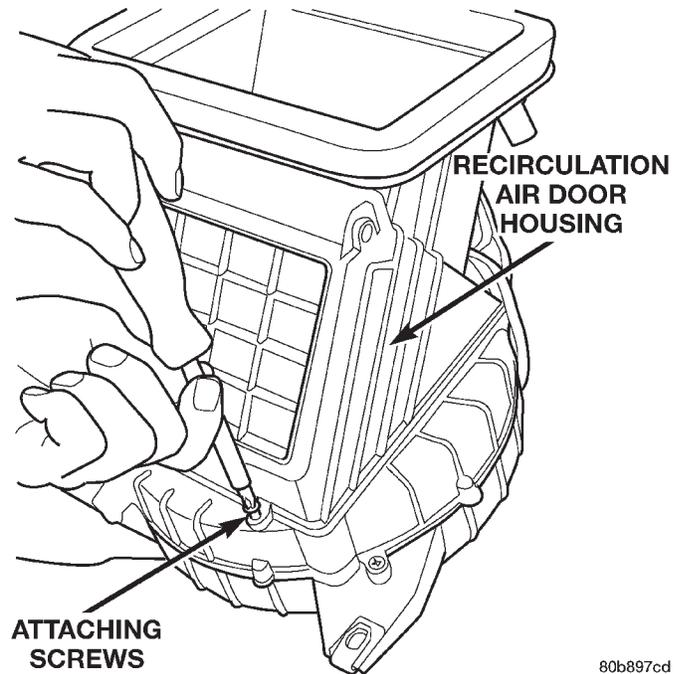

Fig. 65 Recirculation Air Door Housing
- (1) Remove the heater-A/C housing from the vehicle. See Heater-A/C Housing in this group for the procedures.
- (2) Place the heater-A/C housing right side up on the work bench.
- (3) Unplug the wire/vacuum connector from the recirculation air door actuator.
- (4) Remove the 2 screws fastening the recirculation air door sub-assembly to the main housing (Fig. 65).
- (5) Raise the front of the door sub-assembly while releasing the 2 tabs holding the rear to the main housing, and remove the recirculation air door housing.
- (6) Remove the electric/vacuum actuator from the recirculation air door sub-assembly and set aside.